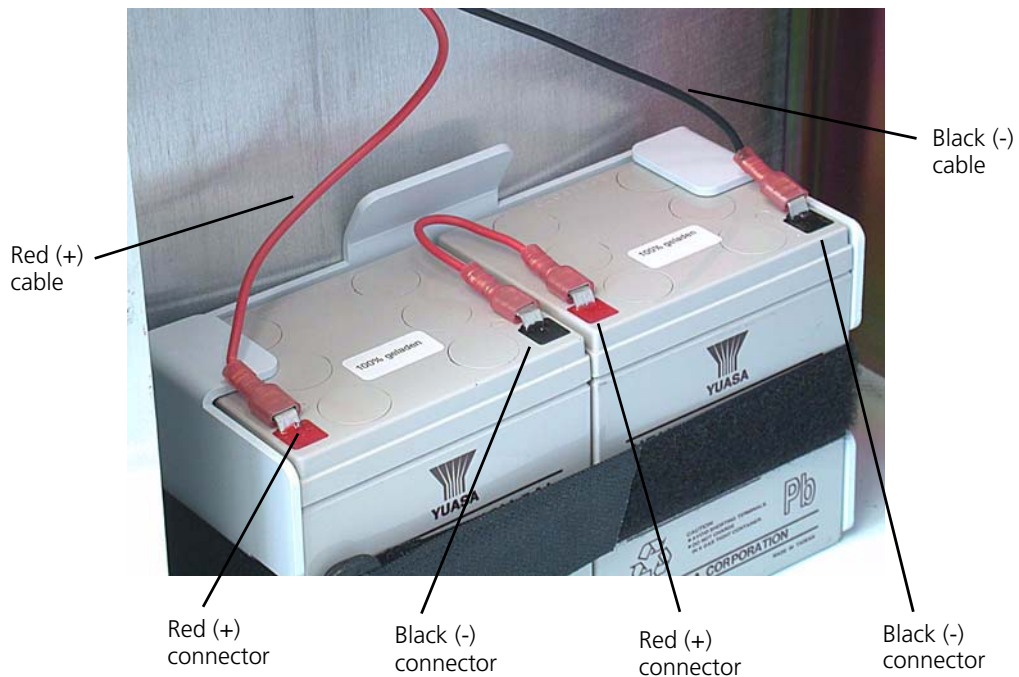

Figure 11-41. Placement of wires on the backup batteries
2. Make a note of the wiring on the batteries. (Figure 11-41.)